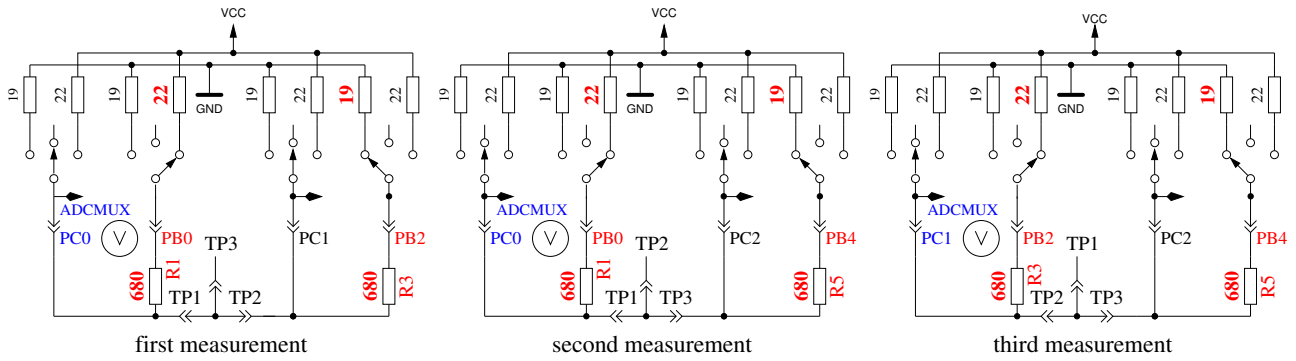

Figure 5.61. Comparison of 680Ω resistors
2. **Comparing of the 680Ω resistors.** In row 1 the cryptic text "+RL- 12 13 23" is shown. Meaning of this is as follows: The RL is the short form of Resistor Low meaning the 680Ω resistors. The 12 stand for: resistor at pin 1 is connected to VCC (+) and resistor at pin 2 is connected to GND (-). The result of this measurement is displayed in row 2 at the first place as difference to the theoretical value. In row 1 follows now a "13" which means, that the first connection of measurement 1 is still connected with 680Ω to VCC but that the resistor of pin 3 is connected to GND. The result is displayed in the middle place of row 2 as difference to the theoretical value. The last measurement of this test "23." means that now the resistor at pin 2 is connected to VCC (+) and the resistor of pin 3 is connected to GND. The result of measurement is displayed at the last place of LCR row 2 as difference to the theoretical value. Please remember, that the resolution of the ADC is about 4.88mV! The measurement situation is also shown in figure 5.61. The theoretical value with respect to the internal resistance of the pins should be: $\frac{5001 \cdot (19+680)}{(19+680+680+22)} = 2493$.